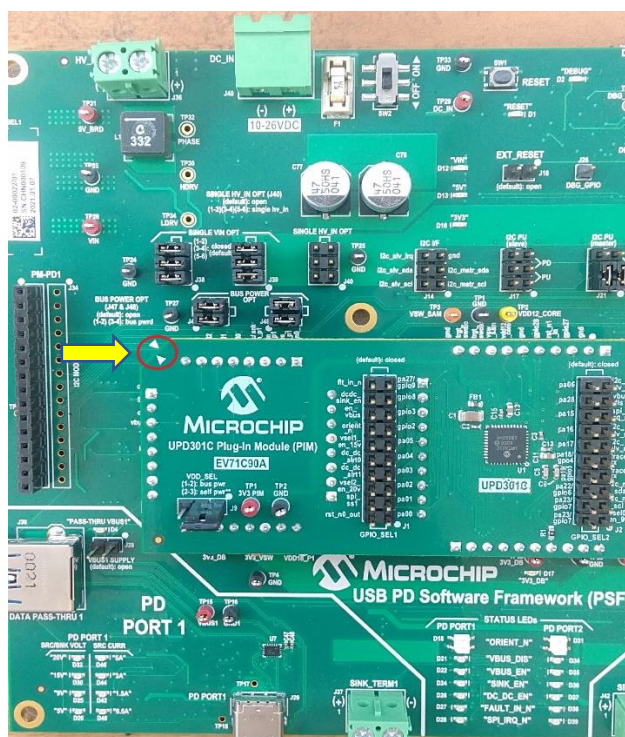

Figure 5.1 PIM Connection
1. Connect the PIM according to the silk label marking on PSF EVB as shown in the Figure 5.1.